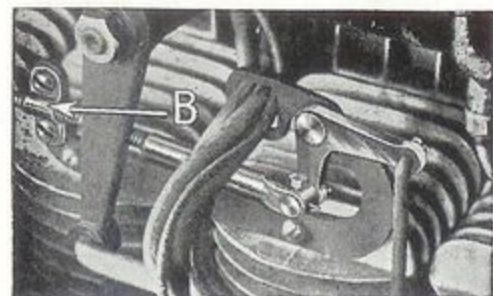

Figure 10
**Model 436—Spark Control (Magneto Ignition)**—Pass the flexible casing for spark control from the right handlebar, to right of frame head and through clip on lower front tank bolt. Pass under tank to left side of motor, along top of motor and attach clevis to bell crank, (Fig. 10). With the right grip turned "in" (to the left) as far as it will go, push the magneto advance lever up as far as it will go and fasten control casing by tightening clip "B" (Fig. 10). Test by
turning the right grip in and out to be sure that full range of the magneto lever is obtained. Adjust by sliding casing in clip "B" (Fig. 10).